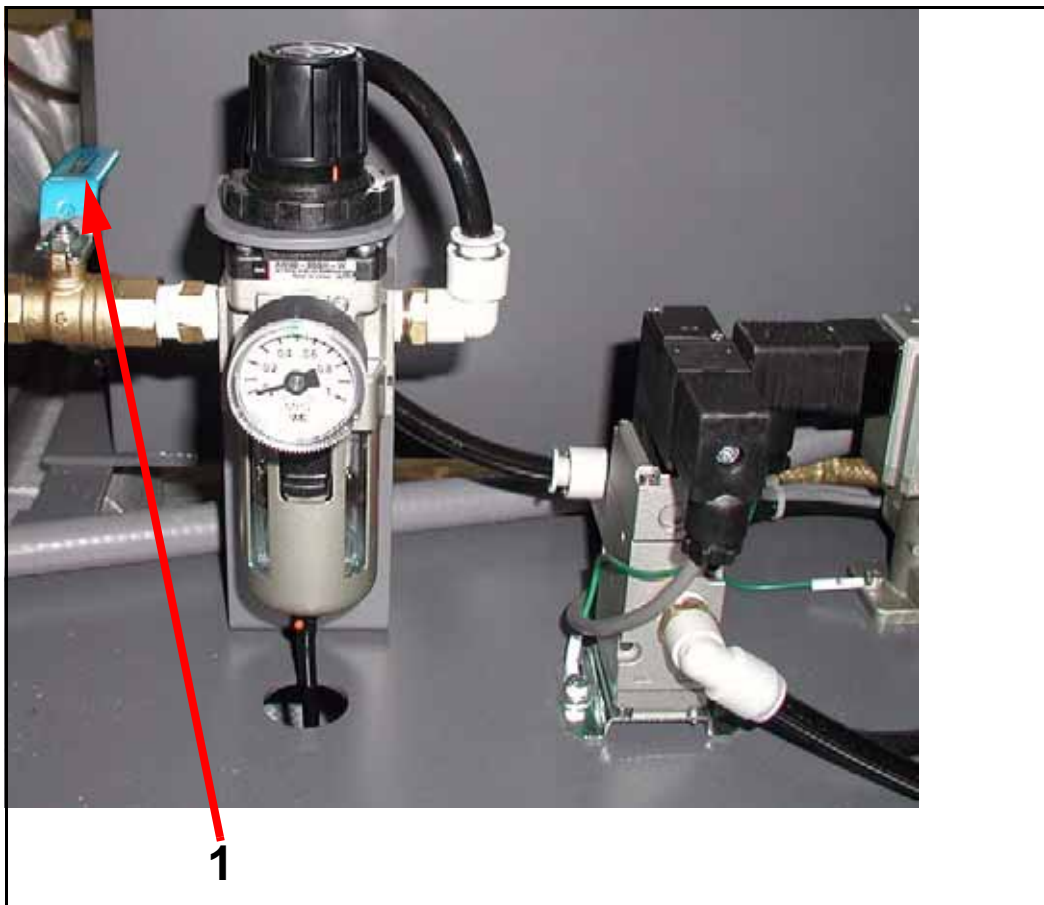

Figure 6-20. Air Valve
- 1 Disconnect air hose from machine or shut off main air valve (1 in Figure 6-20).